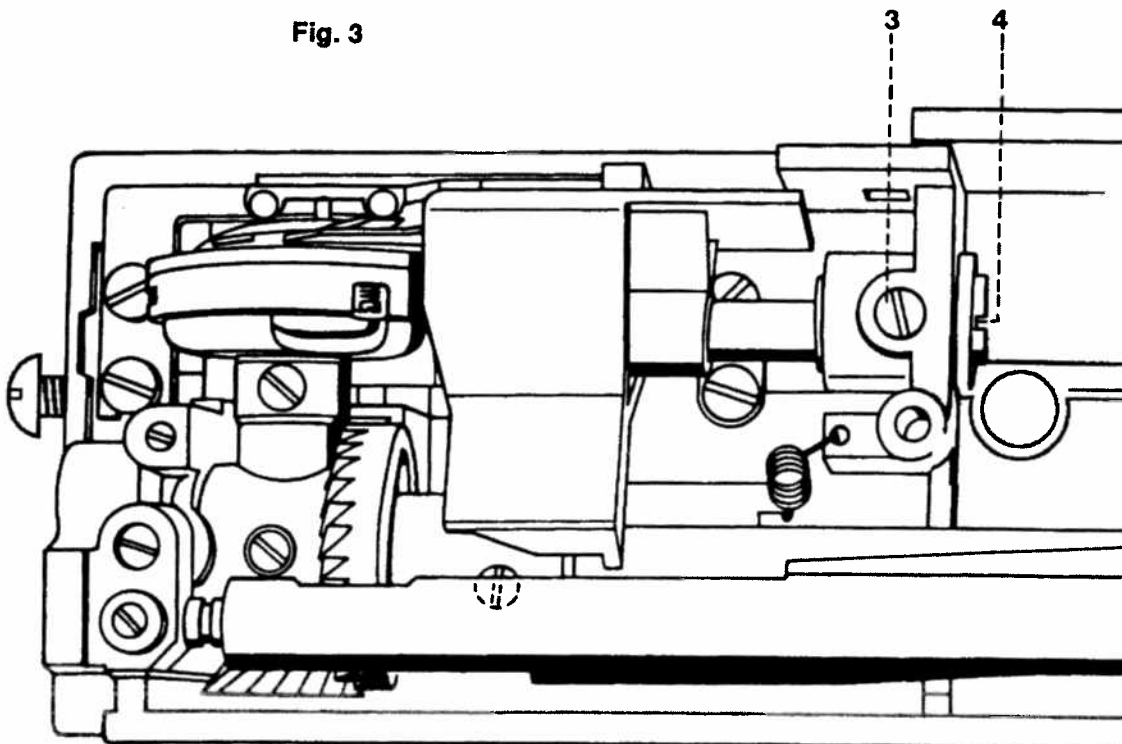

Fig. 3a
- Loosen screw 3 by just 1/8 of a turn (fig. 3a).